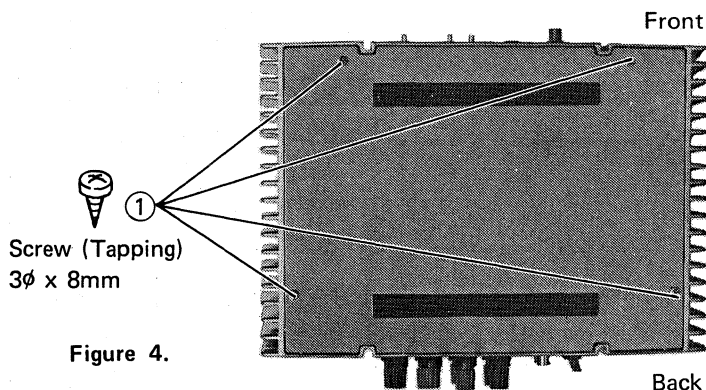

Figure 4.
1. Remove 4 Screws ①. See figure 4.
1. Remove the Bottom Plate. See figure 4.
1. Remove the Bottom Plate and Main P.C. Board. See figures 4 and 5.
1. Remove the Bottom Plate, Main P.C. Board and Power Transformer. See figures 4, 5 and 6.